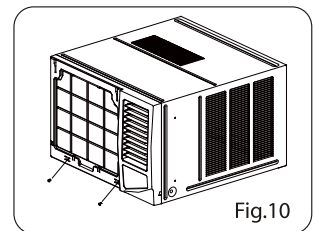

Fig.10
2. Press the both side and lower edge of the frame, and secure it with the two screws at the bottom of the frame.(See Fig. 10)